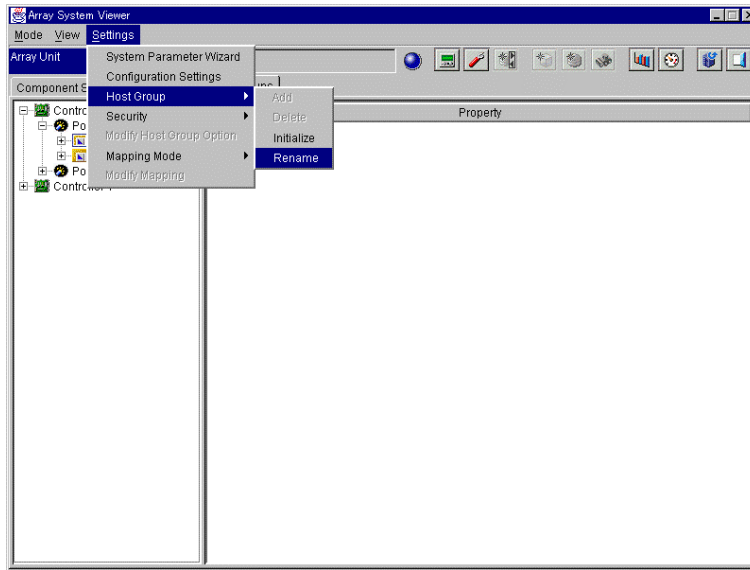

Figure 3.15 Changing the Host Group Name in the Settings Menu
1. Select the **Host Group** requiring the Host Group Name change. Then point to the Host Group in the **Settings** menu and select **Rename** (see Figure 3.15).